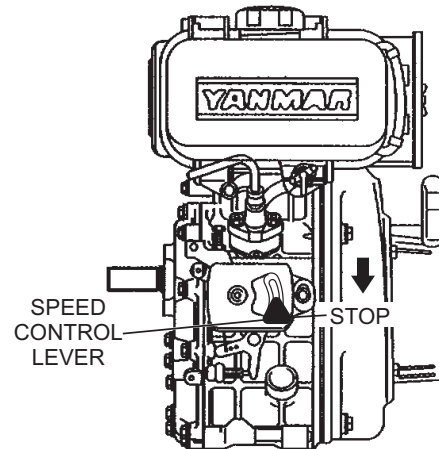

Figure 16. Speed Control Lever (Stop Position)
2. Next, place the speed control lever in the **STOP** position (Figure 16) to stop the engine.
1. Move the speed control lever quickly to the **STOP** position (Figure 16).